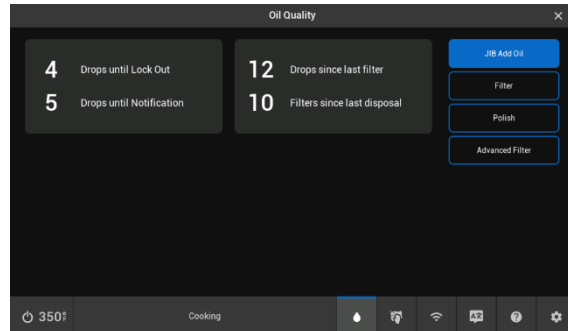
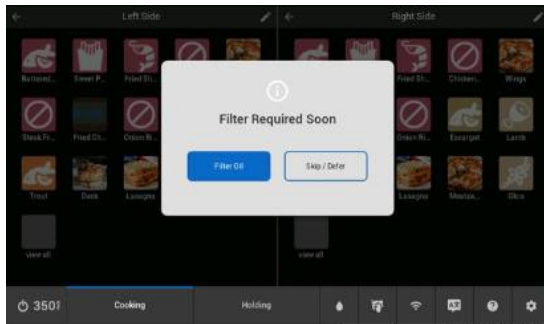

Figure 140 – Oil Quality Screen with Filter Data View Enabled
Figure 141 – Active Cook Warning “Filter Required Soon”
- Click  to display **Figure 140**, to check the current cooks remaining cooks available before Filter Lockout
When the number of cooks since the last filter operation is *greater* than the “Cook Counts Allowance” value **Figure 195 - Cook Count Allowance** in the **Filter Settings** and “Drops until Notification” has been reached, **Figure 140** the screen will transition to **Figure 141**.
The **active cook** screen will suggest performing a filter operation when business levels permit **Figure 141**.
When the number of cooks since the last filter operation is *equal* to the sum of the “Cook Counts Allowance” value **Figure 195 - Cook Count Allowance**, and “Drops Until Lock Out” **Figure 140** has been reached, the filter lockout screen **Figure 143** will show on the display. It is required to perform a filter operation at this time.